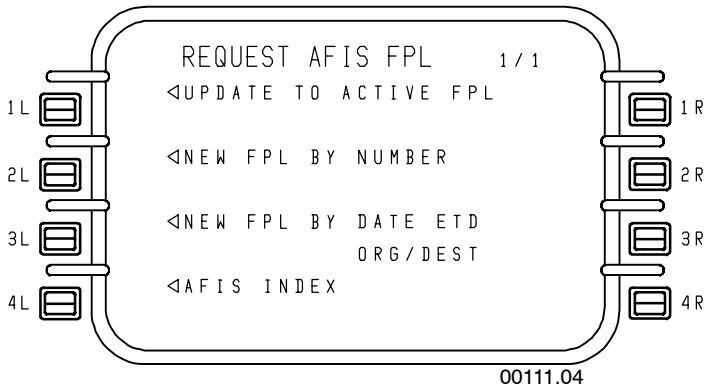
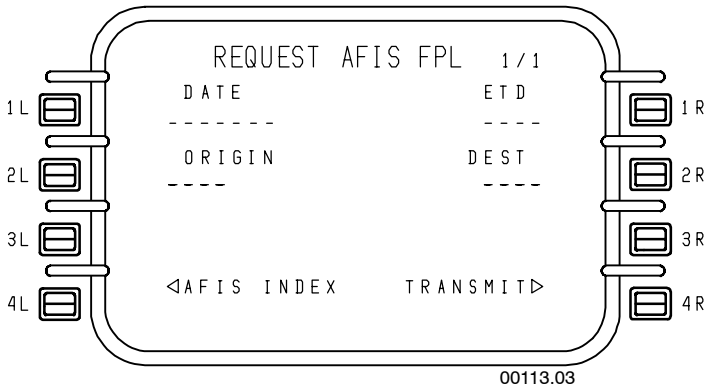

Figure 6-64
Figure 6-66
Flight plans can be uplinked from the GDC to the FMS. AFIS provides two ways of requesting a flight plan: by flight plan number or by specifying the flight plan date, ETD, origin and destination. This is shown in Figure 6-64.
- **3L** - Selection of this prompt (Figure 6-64) results in the FMS displaying the page shown in Figure 6-66. Entry of DATE, Estimated Time of Departure (ETD), ORIGIN, and DEST is required. Upon entering the data, the FMS transmits the request to the DMU. Upon receiving the flight plan from the DMU, the FMS posts the scratchpad message FLT PLAN RECEIVED. The flight plan may then be loaded into the FMS using the load AFIS flight plan described in Procedure 6-6.